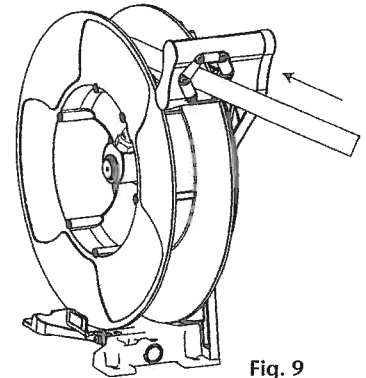

Fig. 9
- Pull the hose hard enough to release the latch, and slowly allow the hose to retract (fig.9).
- Liberar el trinquete y acompañar lentamente la manguera al recogerse (fig. 9).